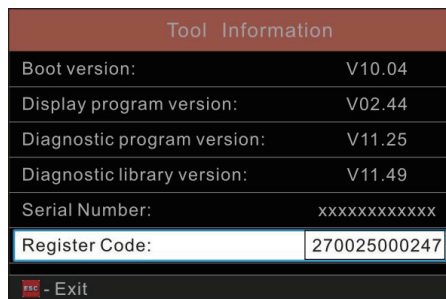

Figure 7-5
8. This is the Register Code number for inputting into step 4 (Figure 7-5).